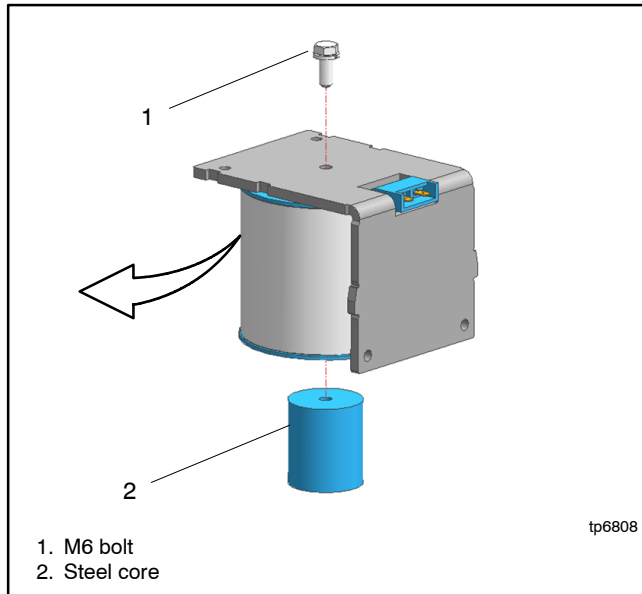

Figure 7-71 Coil Removal
3. Remove the M6 bolt holding the steel frame and the steel core. Remove the coil from the steel frame. See Figure 7-71.